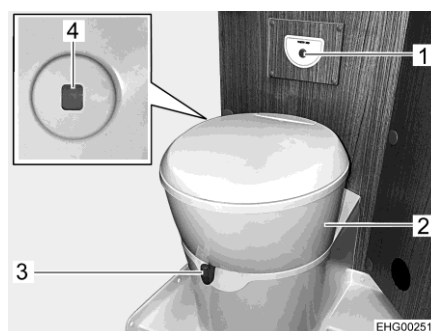

Fig. 106 Toilet
The toilet bowl can be rotated into the required position. In order to do this, grab the toilet's upper part (Fig. 106,2) with both hands and rotate it.
The operating unit with the flush button (Fig. 106,1) is installed near to the toilet bowl.
- Before flushing open the sliding trap of the toilet. To do this, push the slide lever (Fig. 106,3) in an anticlockwise direction.
- For flushing, press the blue flush button (Fig. 106,1).
The colour of the level indicator (Fig. 106,4) changes from green to red whenever the sewage tank has to be emptied.